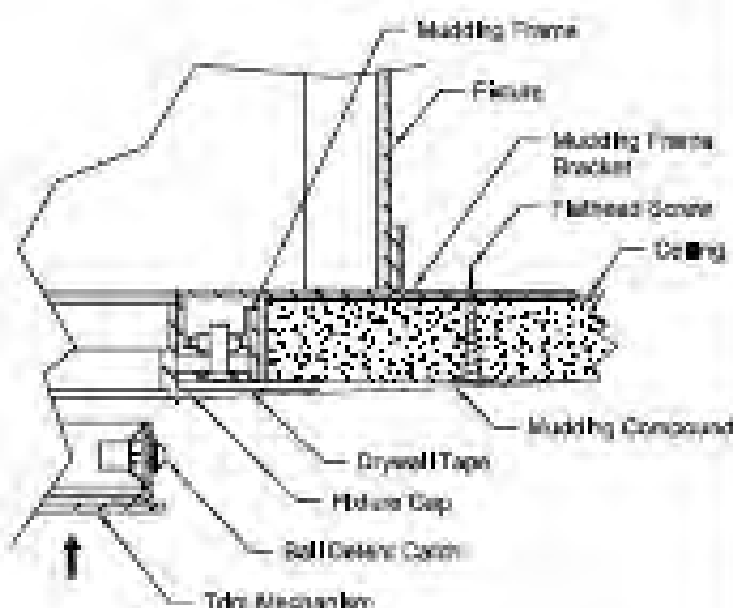

Figure 3
9. Install drywall up to Mudding Frame on Floor so that the two (2) Mudding Frame Brackets on Floor contact inside of Ceiling. See Fig. 3.
10. Retain Fixture to Ceiling with one (1) Flathead Screw through each of two (2) Mudding Frame Brackets. See Fig. 3.
11. Apply Drywall Tape and Mudding Compound to Mudding Frame overlapping Mudding Frame, Flathead Screws, Fixture Gap and surrounding area. Feather out Mudding Compound from Mudding Frame opening to surrounding ceiling area to produce a smooth, flat finish. See Fig. 3.
2. Install Trim Mechanism into Fixture by pressing firmly to seal Ball Detent Catches, See Fig. 3.